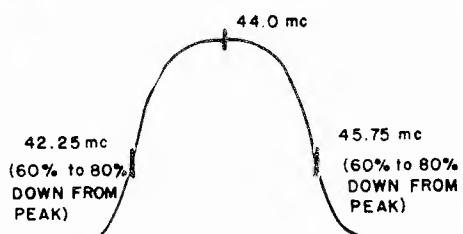

FIG. 7
20. Increase bias voltage to -4.5 volts and adjust the oscilloscope so that 2 inches of vertical deflection is equivalent to approximately 2 volts P-P output. Adjust output of signal generator until a 2 volt P-P indication is obtained on the 'scope. Response curve and marker positions should conform to Fig. 7.
- CAUTION** - No attempt should be made to improve a response curve which conforms to that shown in Fig. 7. Minor deviations may be corrected by slight touch-up of specific coils to make response conform to Fig. 7, as indicated below: